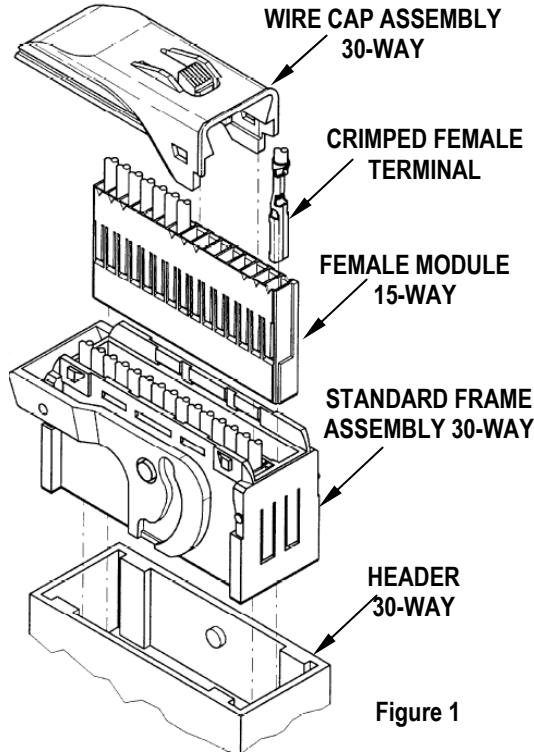

Figure 1
**Warning:** Before extracting the crimp terminals, the wire cap assembly will need to be removed. See ATS-638136300 for instructions. See Figure 1.
The Female Module will also need to be removed from the Standard Frame Module. See ATS-638136200 for instructions. See Figure 1.